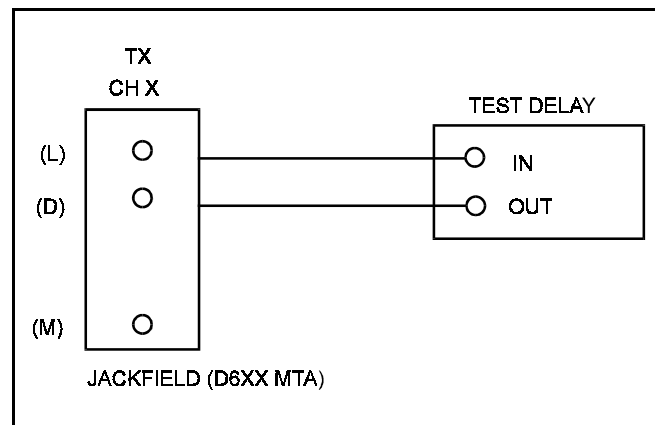

Figure 5 - Test Setup, 300 Hz Polarity Check
- Connect the test delay in series with the Tx modem audio going to the site under test on the control channel as shown in Figure 5.